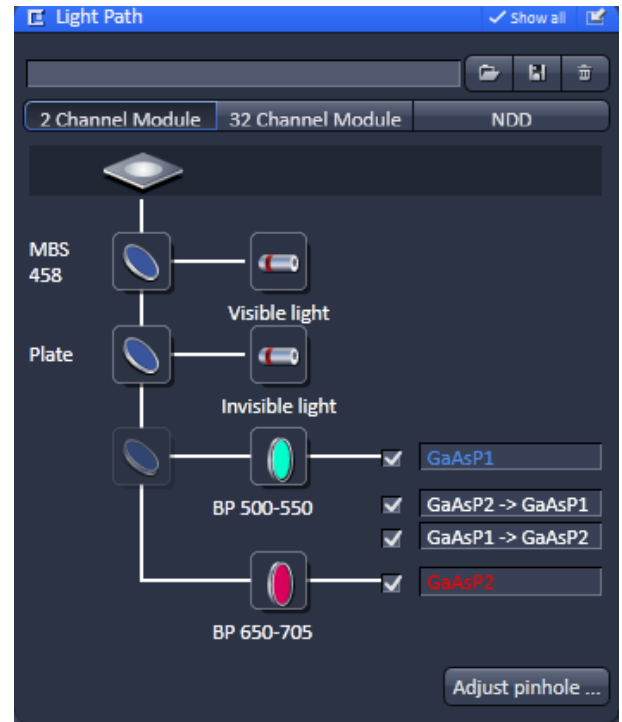

Fig. 261 Light Path tool for 2 Channel Module
- Click on the MBS icon to open a list of dichroics (Fig. 261).